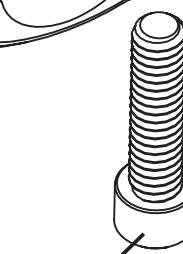

FIG.4
8. Install 1/4-20 screw through clamps halves into bottom hole of flag pole (sold separately). Be sure to use a quality liquid thread locker. (FIG.4)